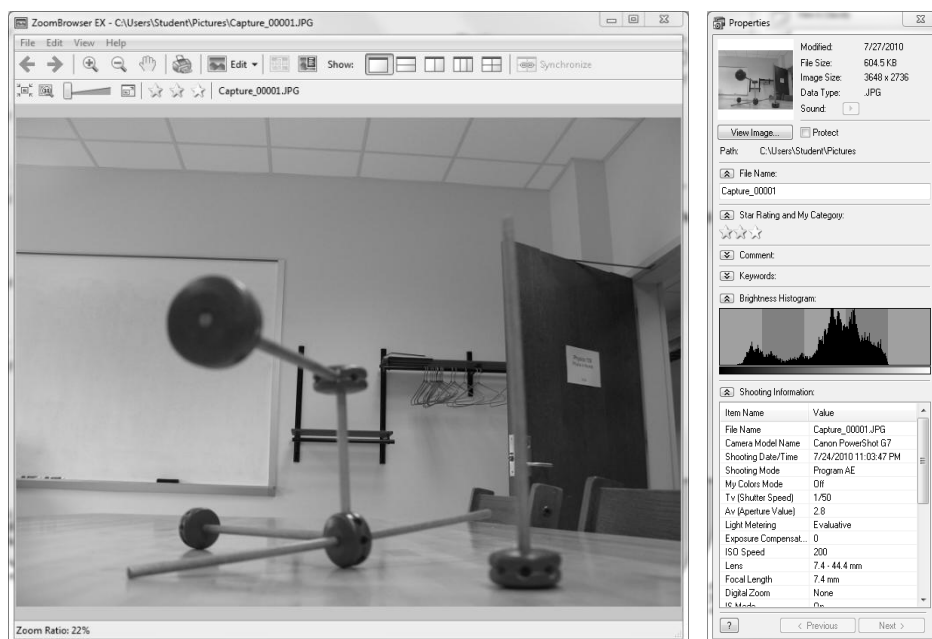

Figure 5: ZoomBrowser EX window, with Properties window
You should now see the two windows shown in Fig. 5.
You can test camera exposure time using a light-emitting diode (LED), a frequency generator, and a frequency counter (Fig. 5). With this set up, the LED will blink on and off as many times per
- Then click "properties" (Fig. 5) and locate "focal length" and "Av (Aperture Value)" in the middle of the list.